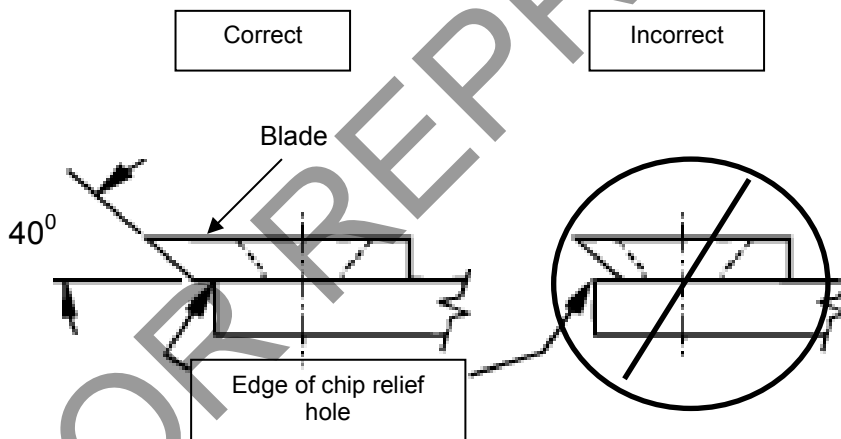

Fig. 9
3. Sharpen blade by lightly grinding the cutting edge of the blade at **40 degrees** (see *Fig. 9* below). It is not necessary to remove all nicks from the cutting edge. **CAUTION:** Be careful to avoid heat buildup in the blade during sharpening. This will reduce its heat-treated hardness properties and will reduce blade life. Evidence of too much heat build-up is a change of color along the sharpened edge.
4. The same chipper blade can be sharpened several times. However, blade replacement is required when blade no longer overhangs the chip relief hole in the impeller back plate, or if increased vibration occurs (see *Fig. 9*).